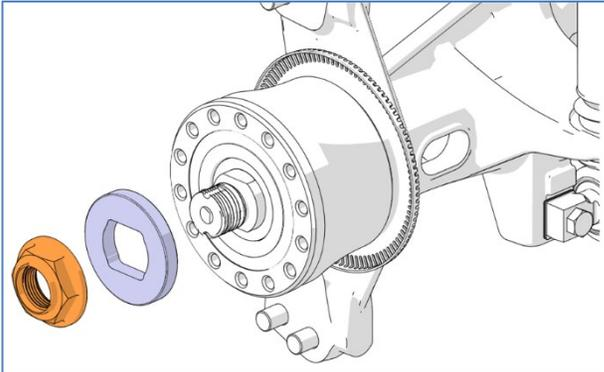

Figure 27: INSTALL THRUST WASHER AND HUB NUT
9. Install thrust washer, hub nut then torque hub nut (Figure 27).